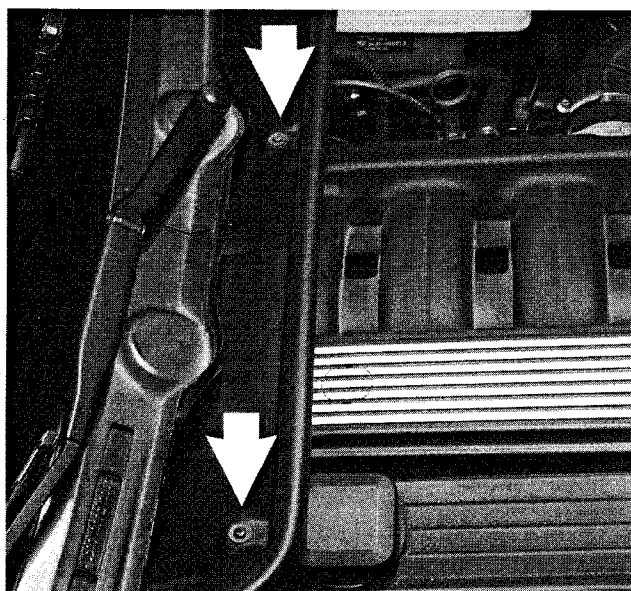

Fig. 13. Engine bulkhead wiring harness cover screws (arrows).
5. Remove screws retaining wiring harness protective cover. See Fig. 13.